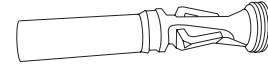

Figure 8
1. Attach diaphragm to inner extension tube (see Figure 8).